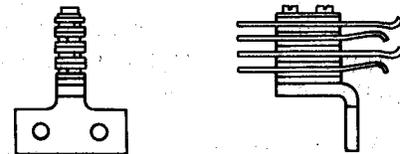

Fig. 11—366 Jack
2.11 366: This single-mounted jack (Fig. 11) is used with the 240A plug.